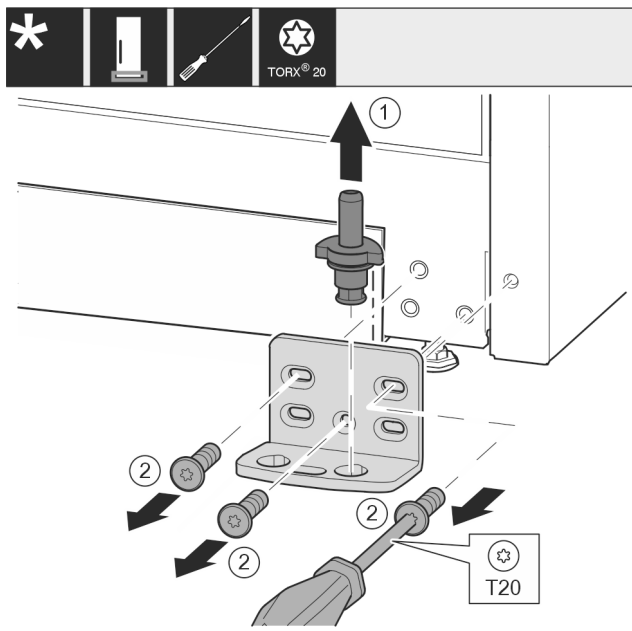

Fig. 15
- ▶ Pull the bearing bolt Fig. 15 (1) out upwards completely.
- ▶ Use screwdriver to unscrew the screws Fig. 15 (2) and remove the swap bearing block.